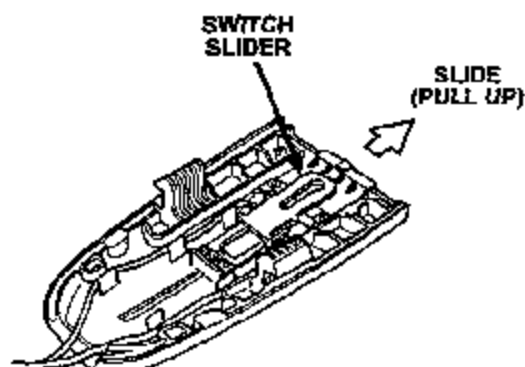

Figure 13
19. **Driver's Side Buckle Only:** Move the switch slider into the up position (Figure 13).